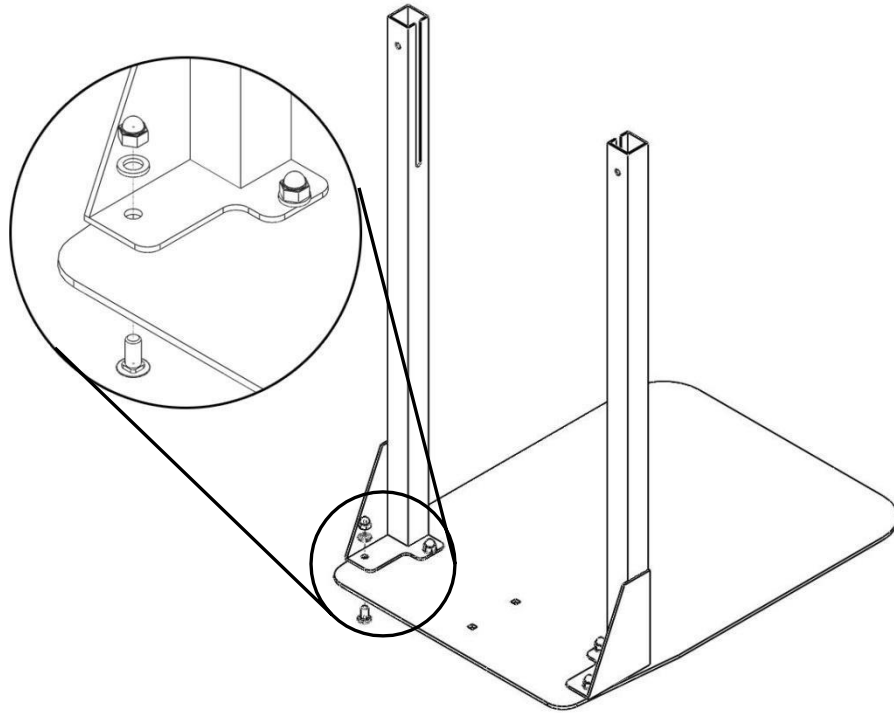

Figure 2
2. Attach the ccGG Support Legs to the ccFF Base Plate using the ccA Round Head Bolts, the ccG Washers, and the ccN Round Head Nuts. See Fig 2.